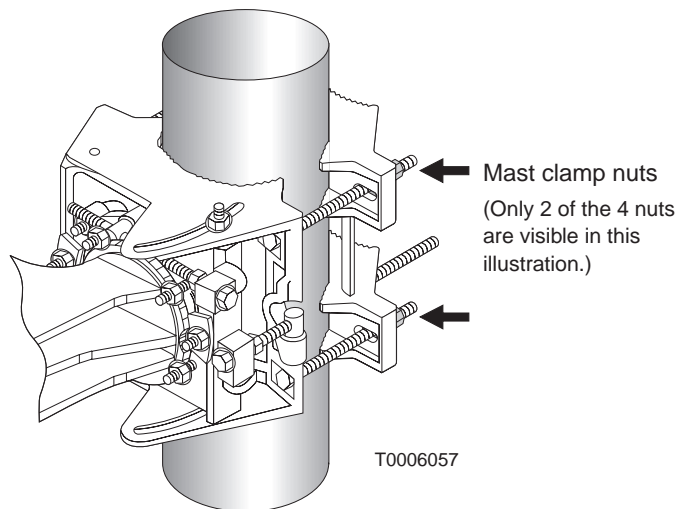

Figure 6-15 Mast clamp nuts
3. When the azimuth is properly adjusted, use a torque wrench with a deep socket to tighten the four mast clamp nuts to 16 foot-pounds torque (21.7 Newton-meters). See figure 6-15. Tighten each bolt a little at a time, moving from bolt to bolt in an X pattern.